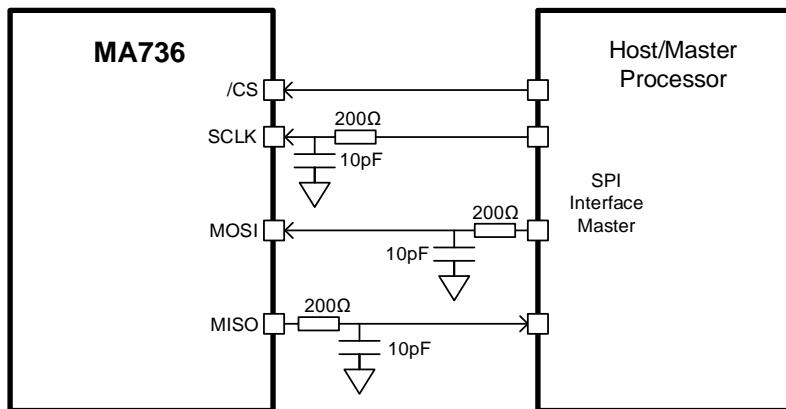

Figure 7: Example of RC Low-Pass Filter on SPI Signals
- Place an RC low-pass filter on SCLK, and close to the sensor. It is recommended to use a  $200\Omega$  serial resistor with a  $10\text{pF}$  shunt capacitor to create a filter with a cutoff frequency of about 80MHz (see Figure 7).